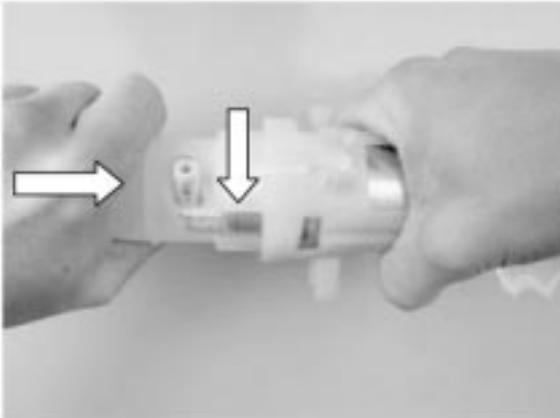

Fig. 10
- Rotate the tool to one side, so that the angled pressure joint of the pump engages with the recess in the tool (see → fig. 10).